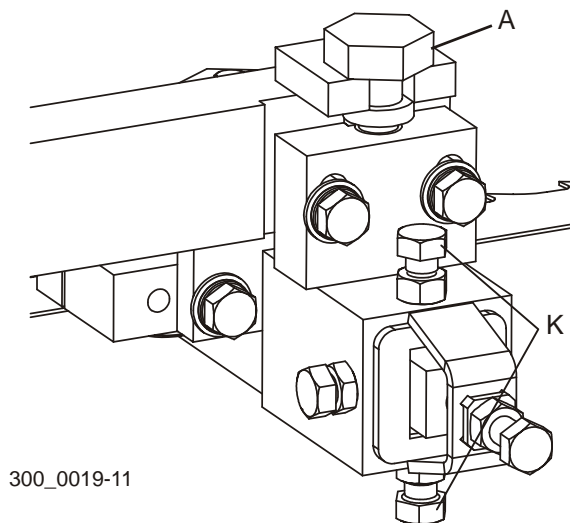

FIG. 5-12
See Figure 5-12. Optional All-Ceramic Guides: Loosen the jam nuts on bolts (K). Adjust the bolts up to tilt the blade down. Adjust the bolts down to tilt the blade up. Retighten the jam nuts and recheck the tilt of the blade guide assembly with the blade guide alignment tool.